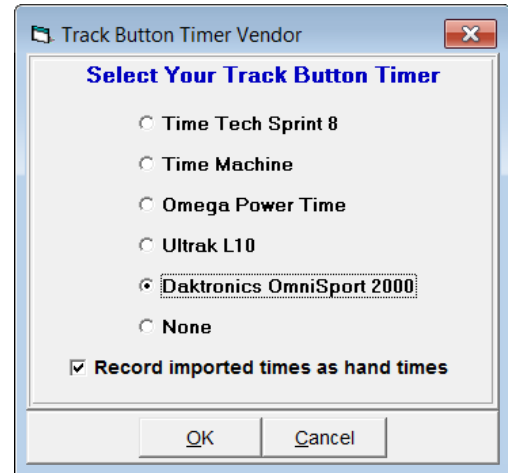

Figure 35: Track Button Timer Vendor
3. Go to **Interfaces > Set-up > Track Button Timer (Figure 35)**.